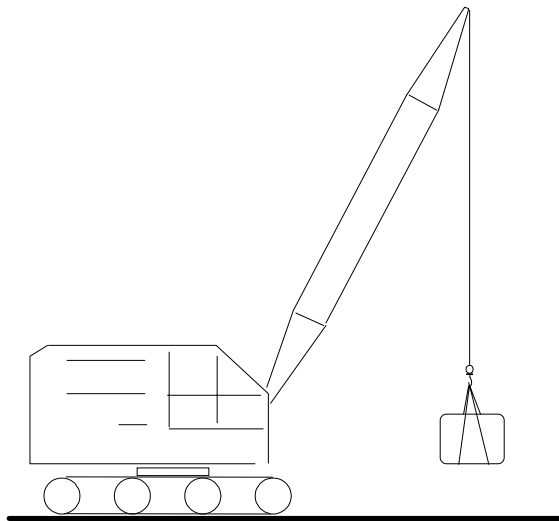

Figure 10
8. Lift the test weight off the ground (Fig. 10).
- If the weight shown on the display is incorrect, press **ENTER** two (2) times to reenter **CAL. AUX. SPAN** and adjust the weight.